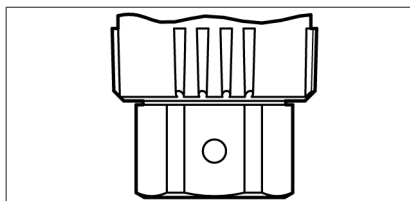

Figure 2: Power Regulator
*Figure 2* shows the regulator at the maximum power “IIII” setting.